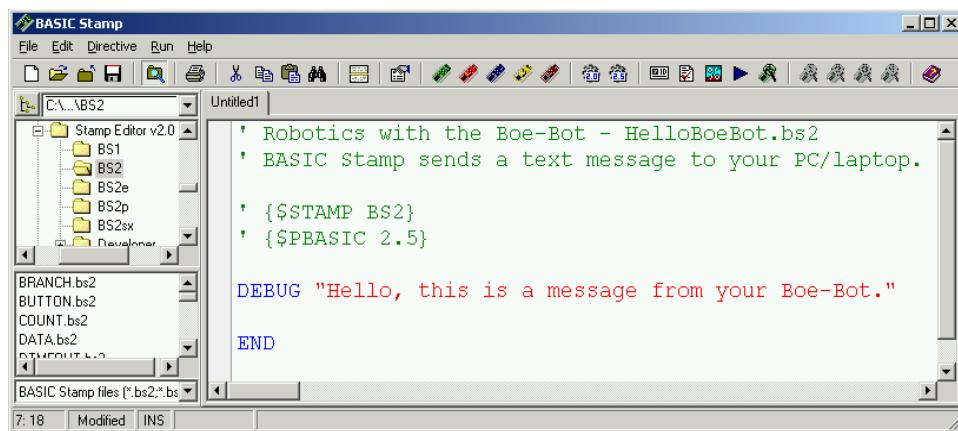

Figure 1-37 HelloBoeBot.bs2 Entered into the BASIC Stamp Editor
- ✓ Type the rest of the program into the BASIC Stamp Editor exactly as shown in Figure 1-37. Notice that the first two lines are above the compiler directives, and the rest of the program is below the compiler directives.